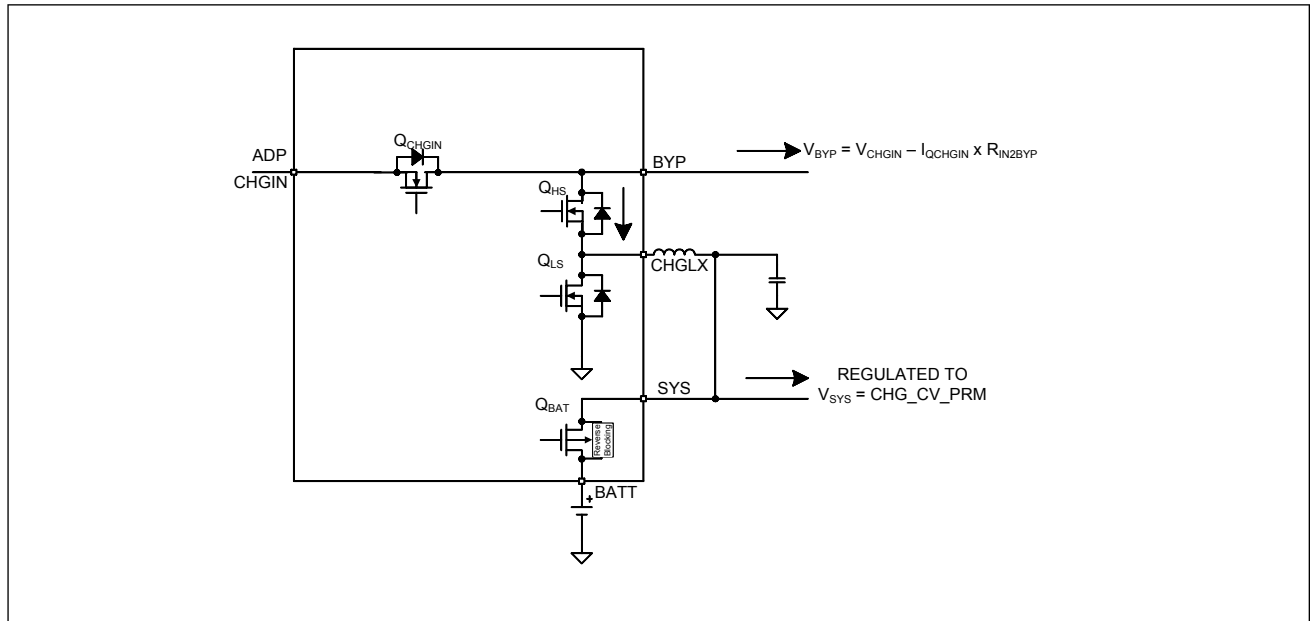

Figure 8. No Charge-Buck
5. NO CHARGE-BUCK, MODE = 0x0C: Adapter is detected within the input voltage operating range (Q_{CHGIN} = on). Battery is disconnected (Q_{BAT} = off) and charger is operating in buck mode powering SYS node, see Figure 8.